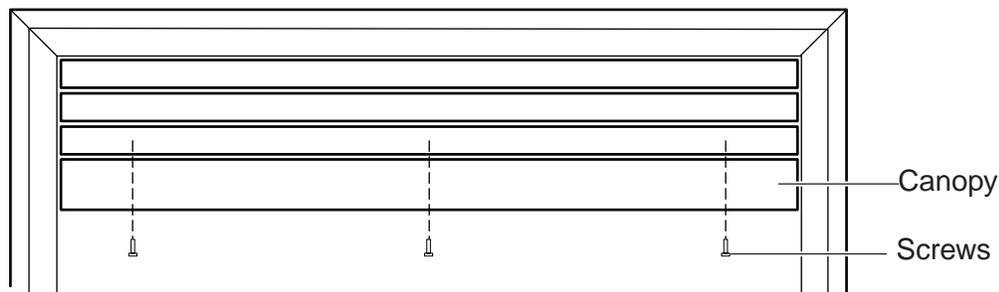

Figure 15 - Canopy Installation
2. Align the black canopy with the holes in the top frame assembly. Refer to Figure 15.
3. Install the three (3) screws (in owner's manual packaging) which attach the canopy to the top frame assembly. Refer to Figure 15.